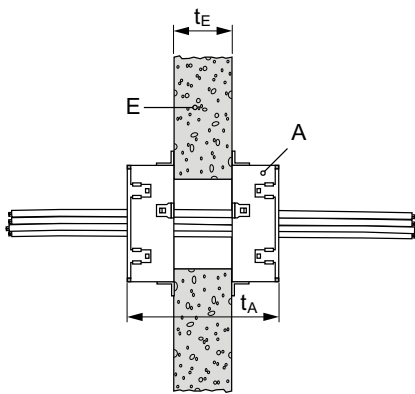

Fig. 1: Both sides
The penetration seal comprises a wall/floor and two Hilti cable collars (A). (fig. 1)